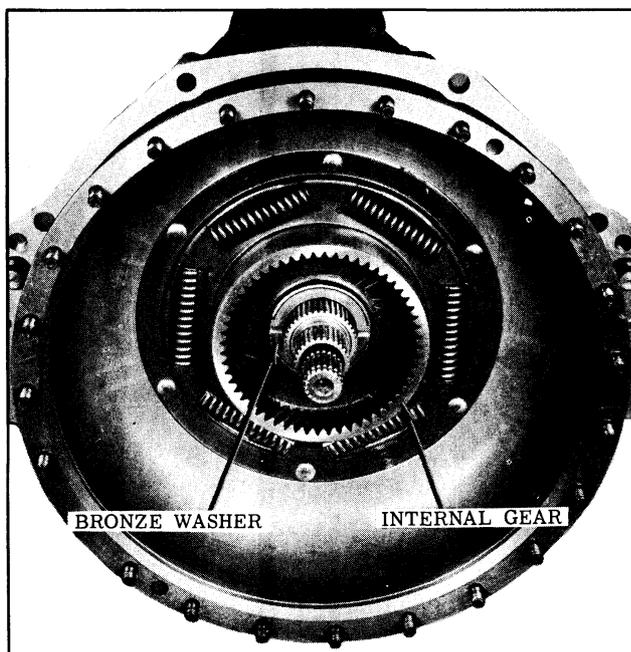

Fig. 3-153 Internal Gear & Bronze Washer Installation
10. Install internal gear into the torus cover, indexing with the drive lugs. (See Fig. 3-153)